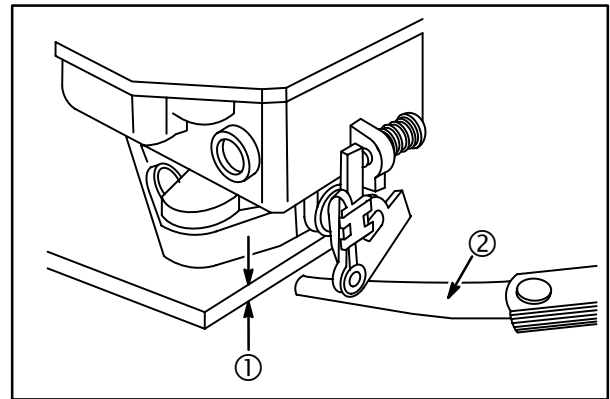

Fig. 96
1. Lay carburetor on 1/8" (3 mm) raised flat surface (1). Use a feeler gauge (2) to check throttle and choke shaft clearance as shown in **Fig. 96**.